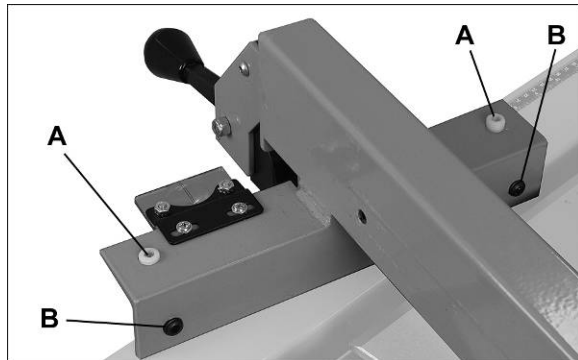

Figure 16
- With a 7/32" hex wrench, rotate the two nylon adjustment screws (A, Figure 16) the *same amount* to raise or lower the fence body from the guide tube. Clockwise raises the fence body, counterclockwise lowers.
2. If adjustment is needed, use one of the *back adjustment screws* (B, Figure 16) to turn the fence in line with the miter slot.
The tightness of the fence against the guide tube can be adjusted by rotating the two back screws (B, Figure 16). Rotate the two screws *equally* (clockwise to tighten) with a 5mm hex wrench.